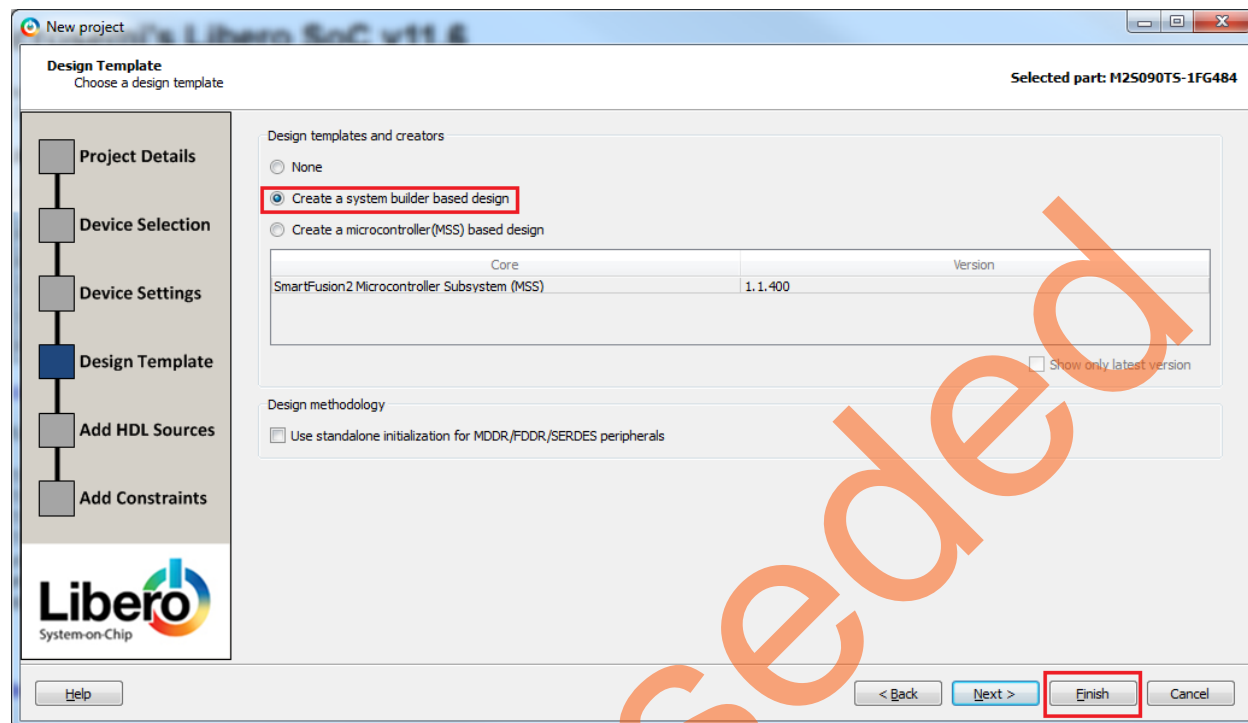

Figure 5 • Design Template Window
6. Click **Next**. In the **Design Template** page, select **Create a system builder based design** check box under the **Design Templates and Creators** as shown in Figure 5.